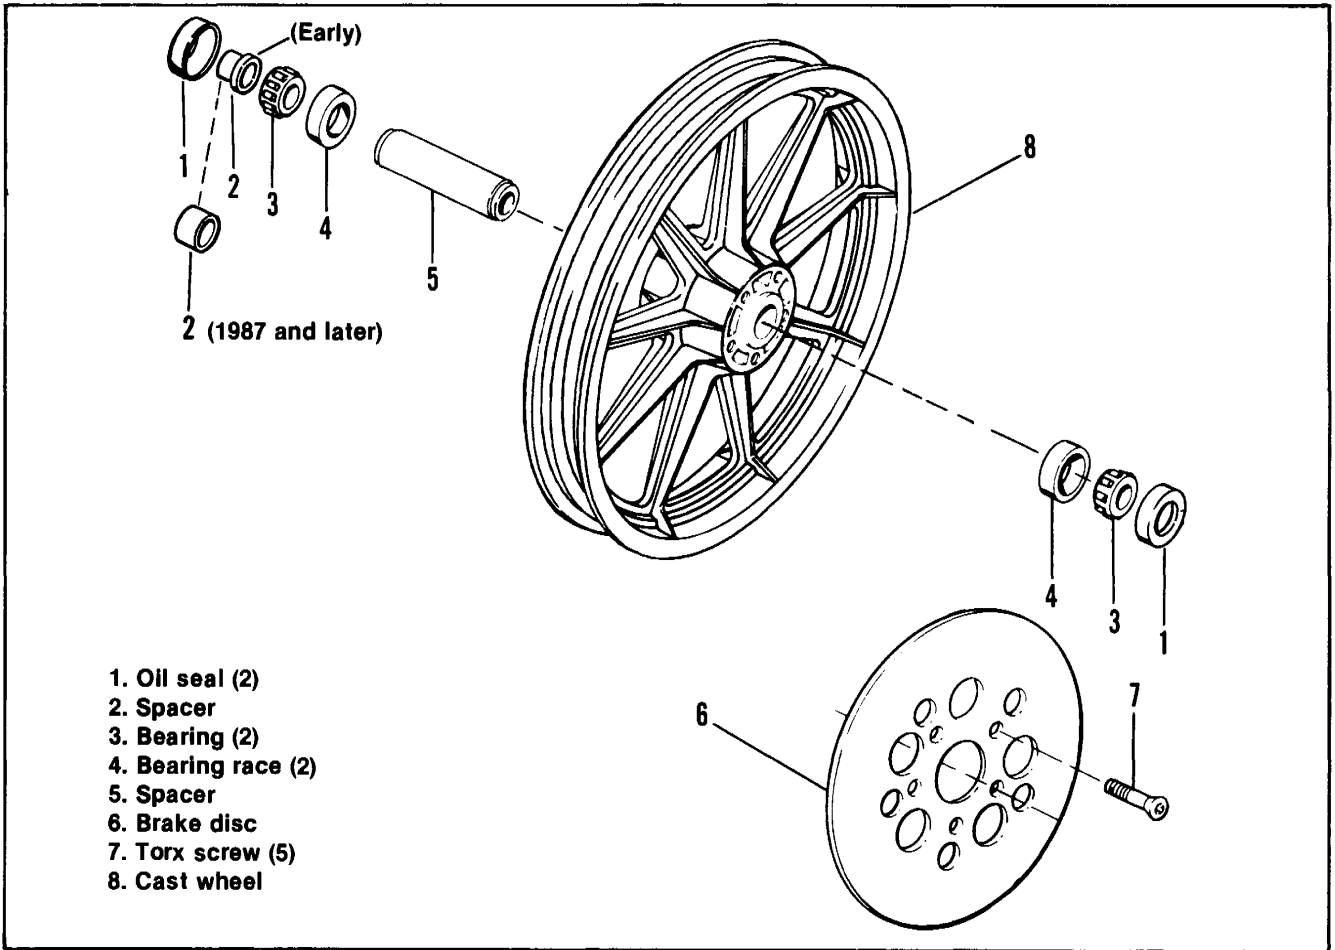

Figure 2-7. Cast Front Wheel — FXR Models
Cast Wheel (Figure 2-7)
1. See Figure 2-7. Place wheel between fork legs with spacer (2) facing to the motorcycle right side.
2. See Figure 2-7. If end play does not fall between 0.004 and 0.018 in., substitute a longer spacer (5) for more end play or a shorter spacer for less end play. See chart for spacer part numbers and sizes.